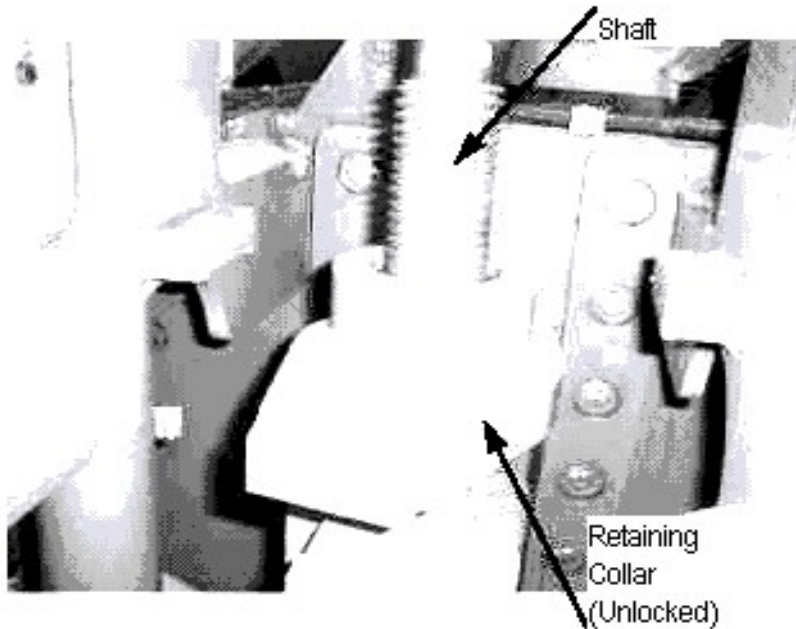

Figure 3-198
s. Turn bogie wheels retaining collar ¼ turn clockwise to unlock bogie wheels, and if retaining collar is still tight, use handle stowed forward of bogie wheels to rotate shaft (see Figure 3-198).